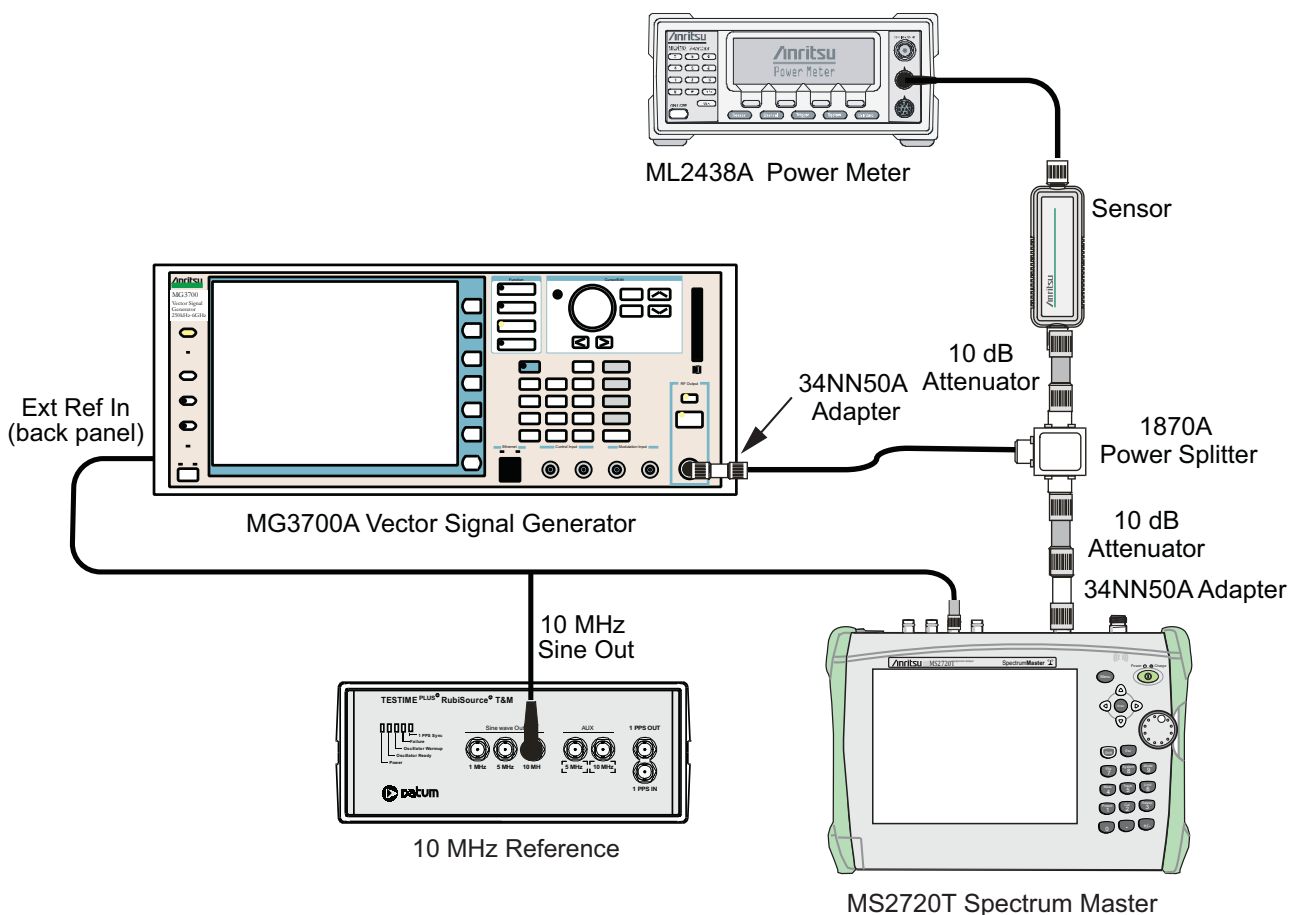

Figure 3-7. WCDMA Occupied Bandwidth, Test Setup
3. Connect the MG3700A, splitter, attenuator, power meter, and sensor as shown in Figure 3-7.
4. Press the **On/Off** key to turn on the MS2720T and wait until the measurement display appears. Then press the **Shift** key then press the **Mode** (9) key to activate the mode selection menu.
6. Press the **Shift** key, the **Preset** (1) key, and then the Preset submenu key.
4. Press the **On/Off** key to turn on the MS2720T and wait until the measurement display appears. Then press the **Shift** key, and then press the **Mode** (9) key to activate the mode selection menu.
4. Press the **On/Off** key to turn on the MS2720T, and wait until the measurement display appears. Then press the **Shift** key, and then press the **Mode** (9) key to activate the mode selection menu.